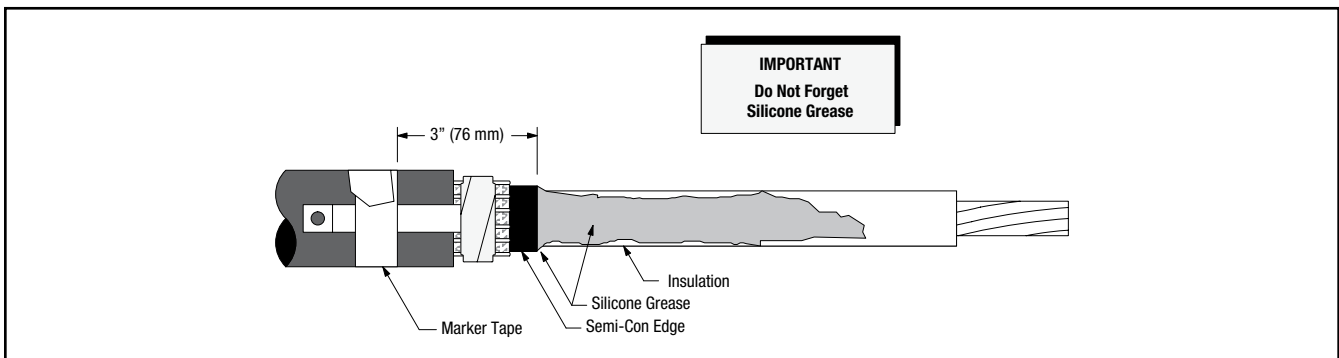

Figure 12
10.1 Place a marker tape 3" (76 mm) back from semi-con step using vinyl tape (*Figure 12*).
10.2 Apply a liberal coating of silicone grease over the semi-con step (*Figure 12*).